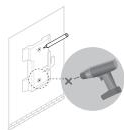

Figure 11
Step1: Place the mounting bracket (for Hub) in the right position. Mark two positions for the screw holes. Drill four 6 mm holes for the screws at the marked positions (*Figure 11*).